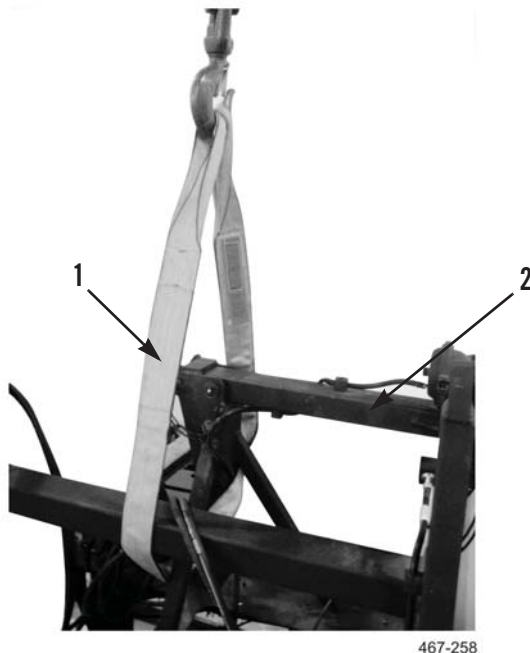

Figure 5. Sling on Stowage Assembly.
10. Attach sling (Figure 5, Item 1) and lifting device to stowage assembly (Figure 5, Item 2).